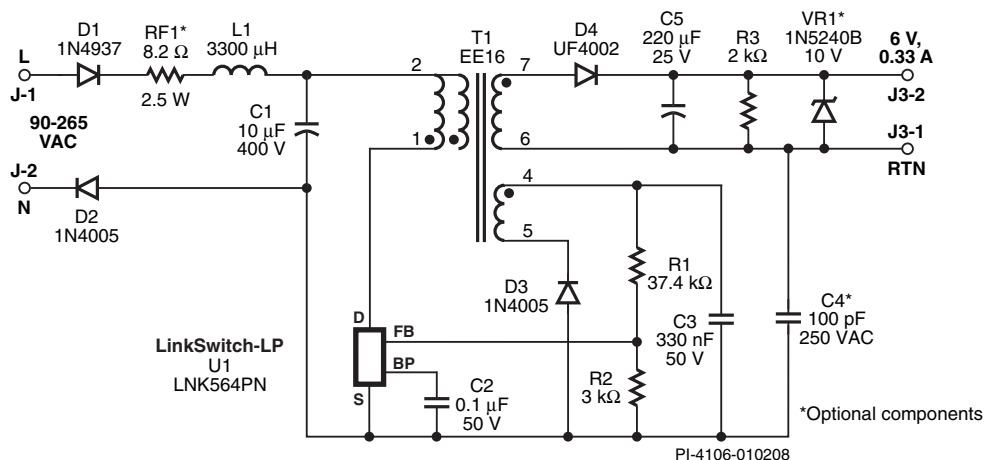
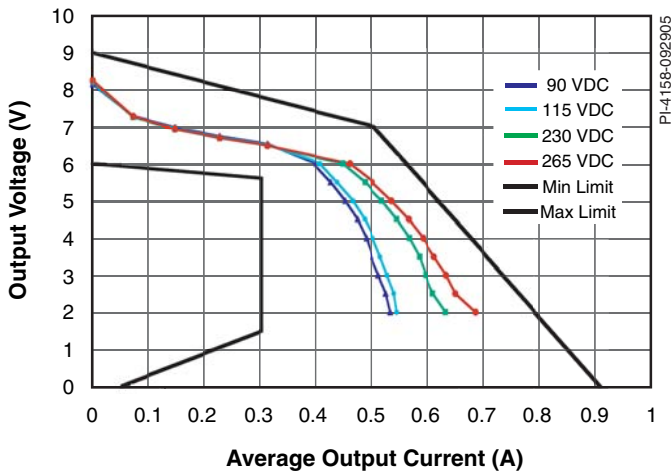

Figure 1. LNK564PN Based 6 V, 330 mA, 2 W, Low-Cost, Flyback Charger Power Supply.
Figure 2. Output VI Characteristic Curves vs. Load & Line.
This LinkSwitch-LP based flyback converter (Figure 1) provides an output VI curve (Figure 2) similar to that of an unregulated line frequency transformer based supply, but with output current that is limited past the maximum rated output power (peak power point).
- Figure 1 contains three optional components: RF1, VR1 and C4. A fusible resistor must be used if a safety agency disapproves of using L1 as a fusible component. The auto-restart function limits the output power during open loop operation, so only a 1/2 W VR1 is required if the open loop output voltage is unacceptable. Y capacitor C4 improves EMI repeatability but is not required to meet EMI limits.